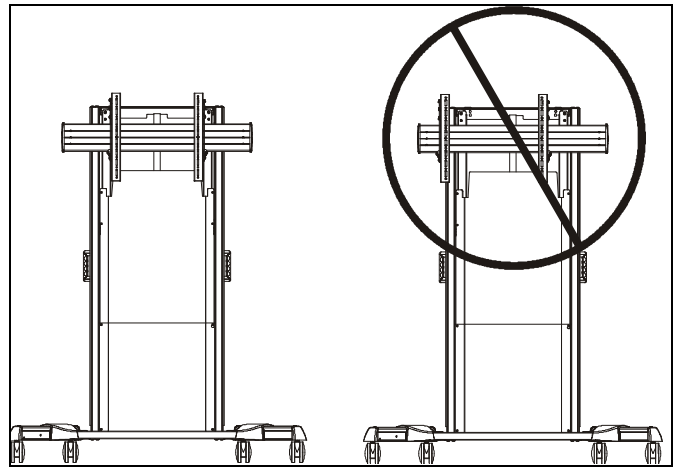

Figure 5
**⚠ WARNING:** In order to ensure an even mount and prevent cart from tipping over, uprights MUST be centered over column assembly. Do NOT install both uprights to the same side of column assembly! (See Figure 5)